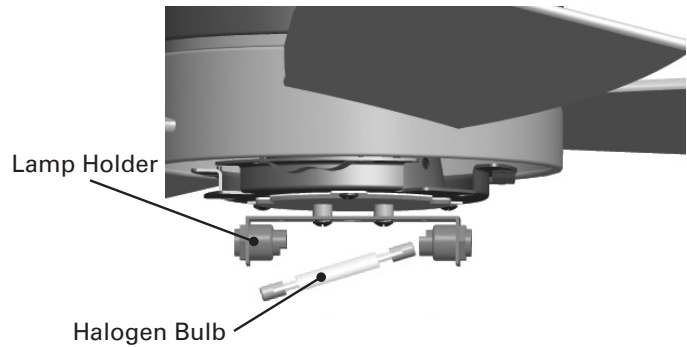

FIGURE 1.
Step 1. Install the 100W halogen bulb by inserting it into the lamp holder at an angle, then tilt the bulb upward until it fits in the other side. See Figure 1.